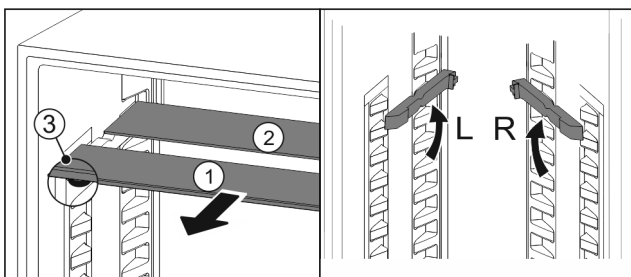

Fig. 192
- ▶ Pull the glass panels out Fig. 192 (1) from the front, one at a time.
- ▶ The glass panel Fig. 192 (1) and trim strip are at the front.
- ▶ The stops Fig. 192 (3) point down.